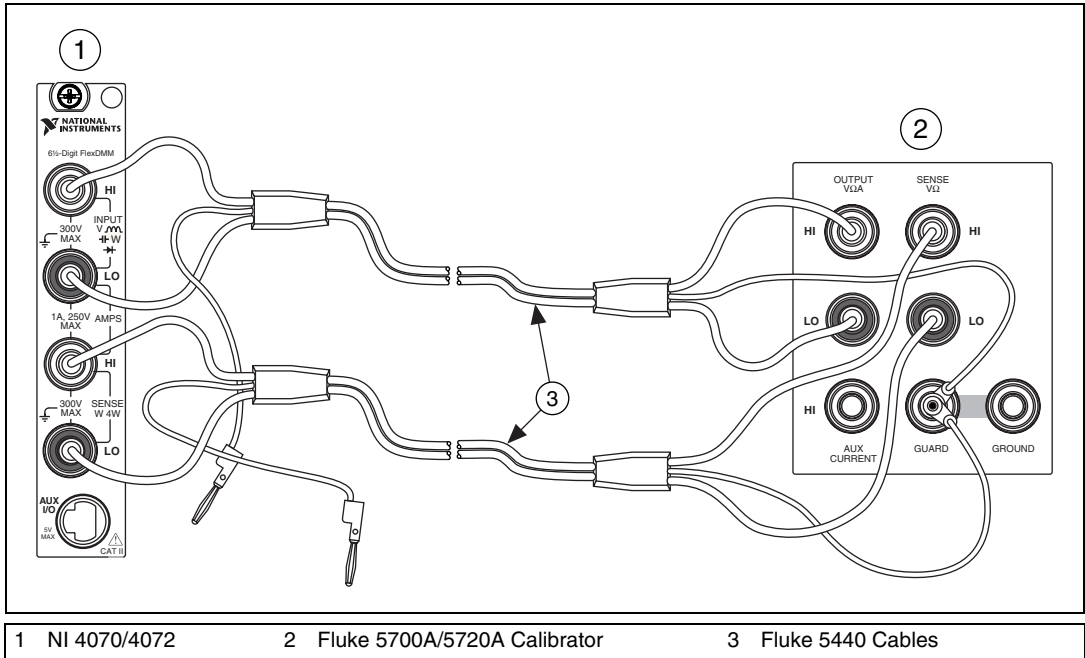

Figure 4. Cable Connections for 4-Wire Resistance
2. Fasten the connectors on one end of each Fluke 5440 cable to the appropriate banana plug connectors on the NI 4070/4072. Fasten the connectors on the other end of each Fluke 5440 cable to the appropriate calibrator binding posts. Figure 4 shows the Fluke 5440 cables. Table 8 lists the cable connections.